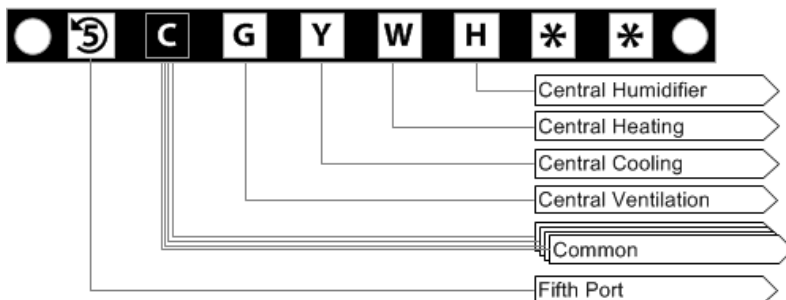

Figure 16 – Connection to a forced air ventilator and other auxiliary devices.
- In the case of an electric coil, terminal "W" of the MINOTAIR controls the coil (see Figure 16). Ensure the MINOTAIR auxiliary heating option is set to "YES" in the "Temperature" menu while specifying that the fan source is the MINOTAIR itself and not that of another auxiliary device such as a furnace.
- In the case of an electric coil, its 24 VAC "common" control wire must be connected to the "C" terminal on the MINOTAIR (see Figure 16).